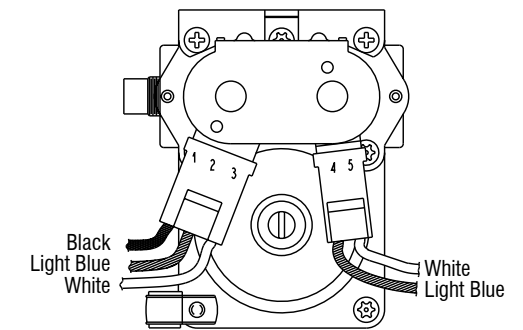

Figure 13 - Measuring gas valve resistance.
3. Use an ohmmeter to determine if a gas valve coil has malfunctioned. Remove harness plugs. Measure resistance across the terminals (see figure 13). Readings should match those shown in the following chart; if not, replace coils.